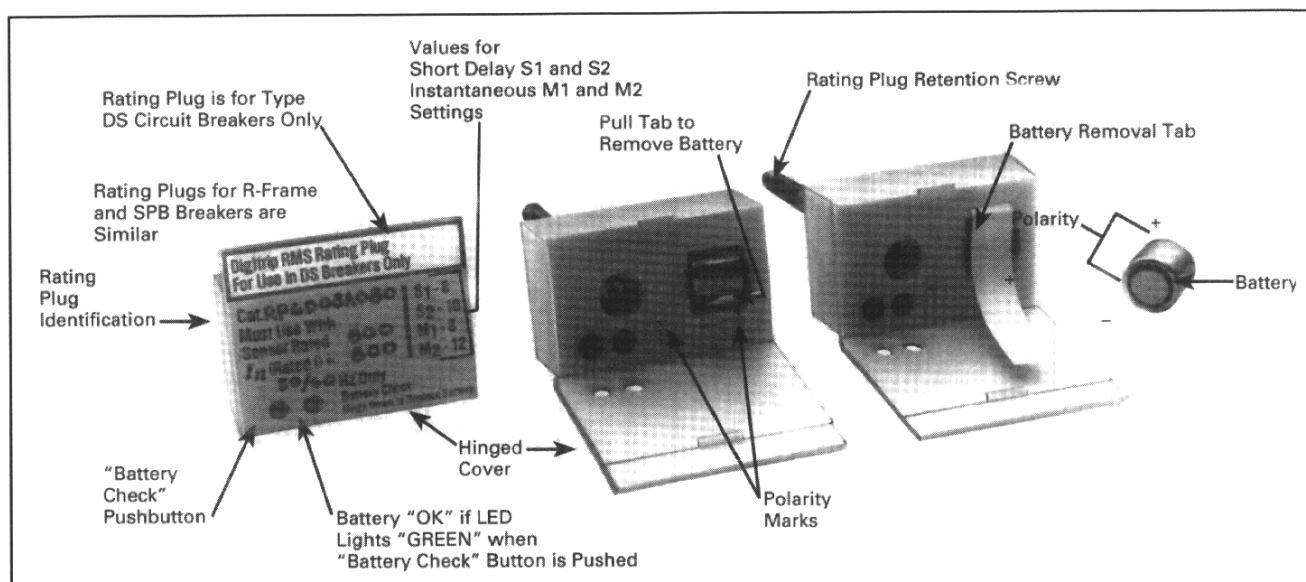
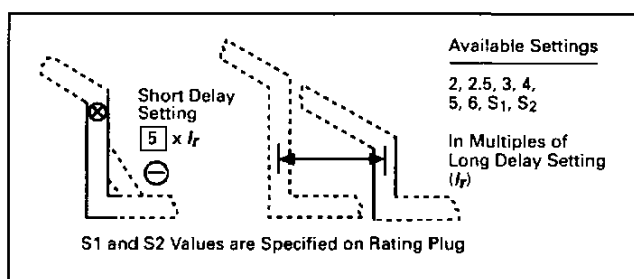
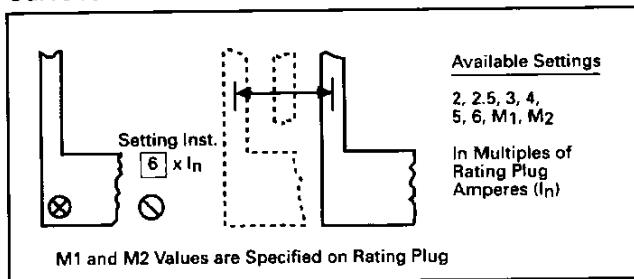

Fig. 4 Rating Plug
Fig. 8.3 Short Delay Current Settings
Fig. 8.5 Instantaneous Current Settings
The **Rating Plug** (See Fig. 4) fits into a special cavity to complete the Trip Unit (See Fig. 1).
Rating plugs have two current ratings listed on their covers (See Fig. 4).
There are eight (8) available Short Delay "Pick-up" Current Settings, as illustrated in Fig. 8.3. Six settings are in the range from 2 to 6 times I_r and the other two settings are "S1" or "S2" times I_r . (REMEMBER: I_r is the Long Delay Current Setting). The values that "S1" and "S2" have depend upon the type of circuit breaker, and are specified both on the rating plug label (see Fig. 4) and on the applicable (LS) Time-Current Curve referenced in Section 5.
There are eight (8) available Instantaneous Current Settings, as illustrated in Fig. 8.5. Six settings are in the range from 2 to 6 times the rating plug value (I_R), and the other two settings are "M1" and "M2" times (I_R). The values that "M1" and "M2" have depend upon the type of circuit breaker, and are specified both on the rating plug label (see Fig. 4), and on the applicable (I) Time-Current Curve referenced in Section 5.